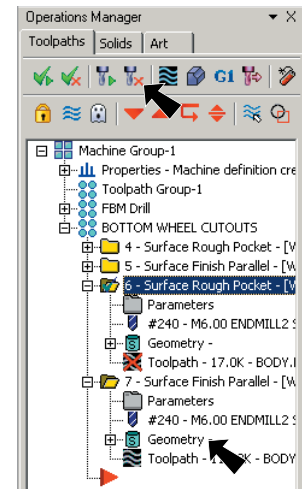

Fig. 62
Step 15. In the Toolpaths Manager, expand **7 Surface Finish Parallel** and click **Geometry**, **Fig. 62**.
Step 17. In the Ops Manager, click **Regenerate all dirty operations**, **Fig. 62**.